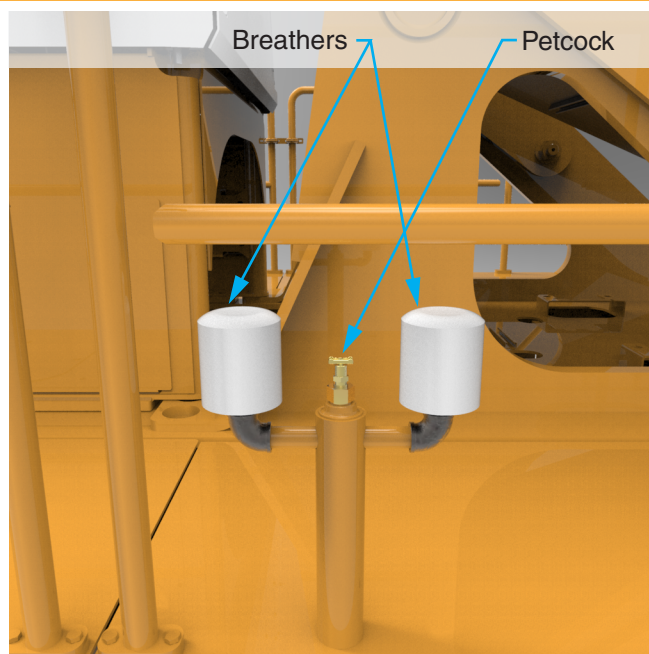

Figure 5-5-18 Hydraulic Tank Breathers
3. Relieve pressure in the tank by opening the petcock between the breathers. See Figure 5-5-18.